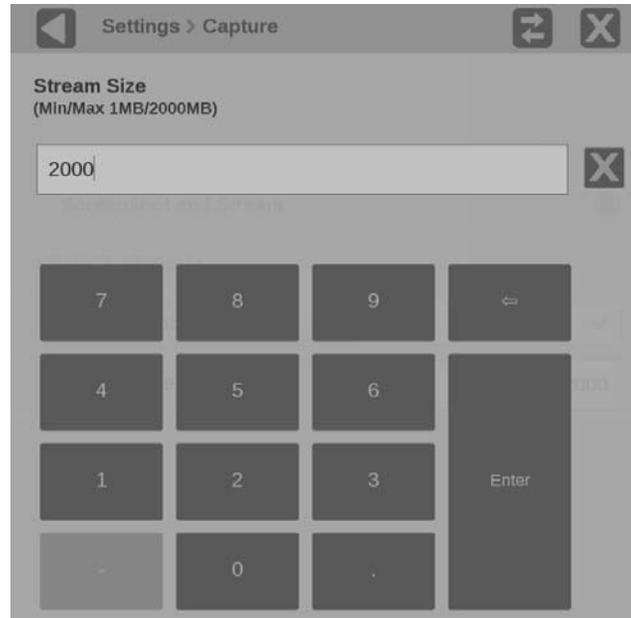

Figure 79: Stream Size settings
6. Select **Stream Size (MB)** to open an on-screen keypad to set the size of the capture. (See Figure 79.)